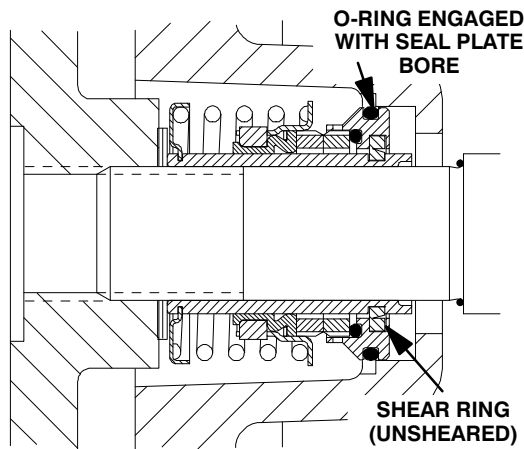

Figure 11. Seal Partially Installed
Clean and inspect the impeller as described in **Impeller Installation and Adjustment.** Install the full set of impeller shims (26) provided with the seal, and screw the impeller onto the shaft until it is seated against the seal (see Figure 11).